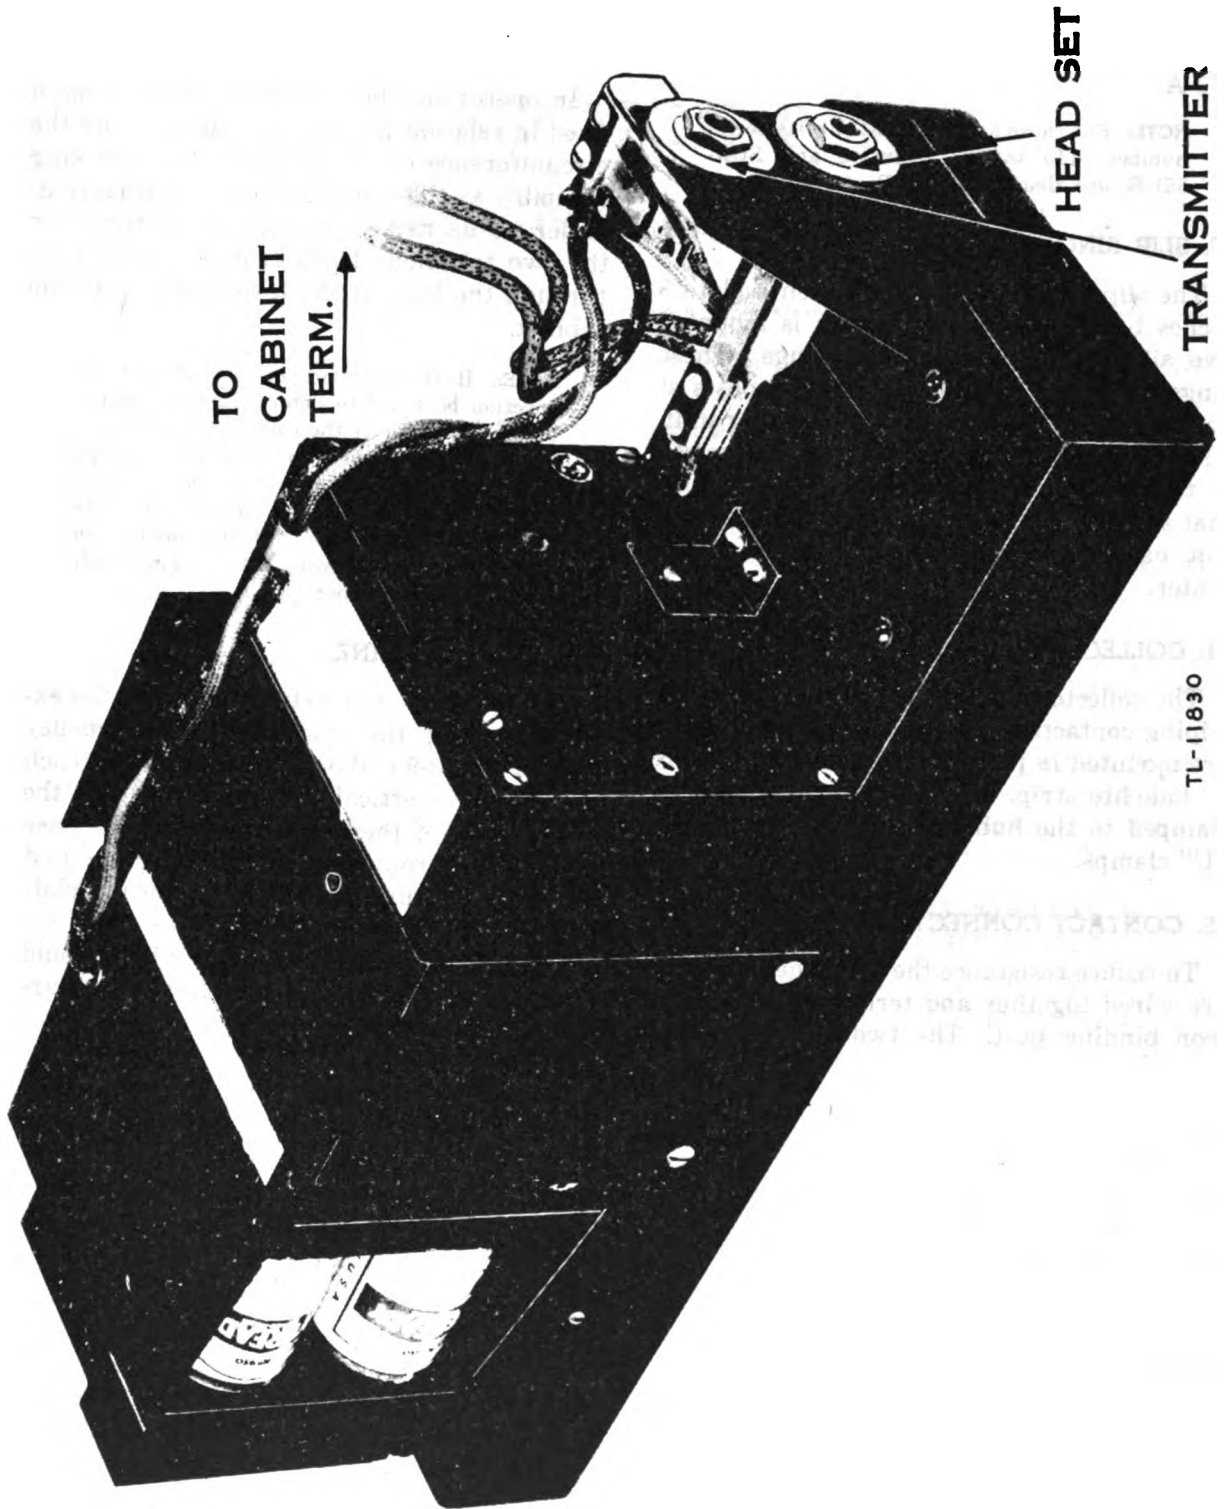

Figure 35. Telephone EE-8-A (modified), top view, part of Telephone Equipment RC-161-A
52. TELEPHONE EQUIPMENT RC-161-A (fig. 35).